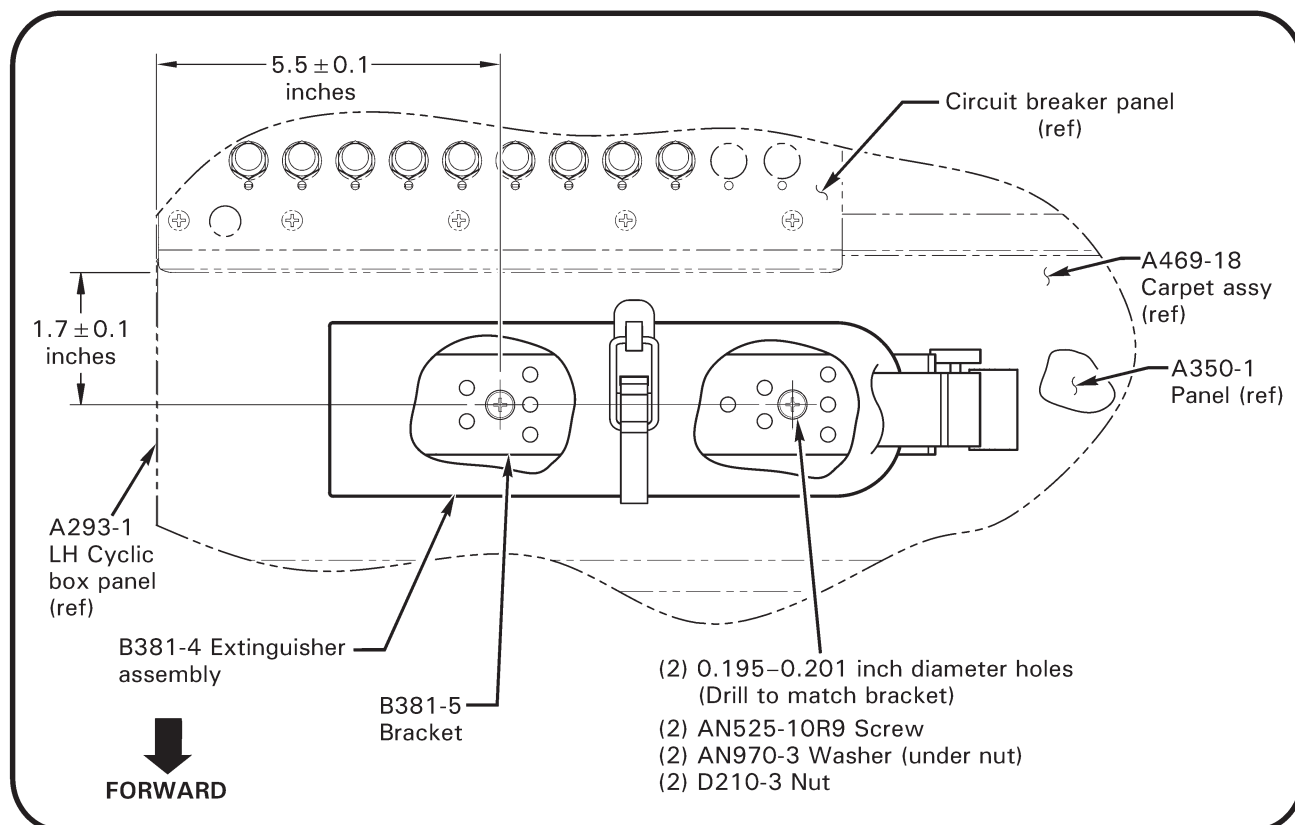

FIGURE 1 B381-5 Bracket Installation
3. Refer to Figure 1. Gain access to aft side of A350-1 LH panel by removing A475-2 cross tube cover.
5. Position B381-5 bracket on A350-1 panel as shown and mark mounting hole locations with a permanent marker. Remove bracket. Using a drill stop, drill (2) 0.195 – 0.201 inch diameter holes at marked locations. Deburr holes and clean up debris.
7. Refer to Figure 1. Using a pick or similar tool, pierce carpet at newly drilled holes. Install B381-5 bracket as shown using (2) AN525-10R9 screws, (2) AN970-3 washers, and (2) D210-3 nuts.